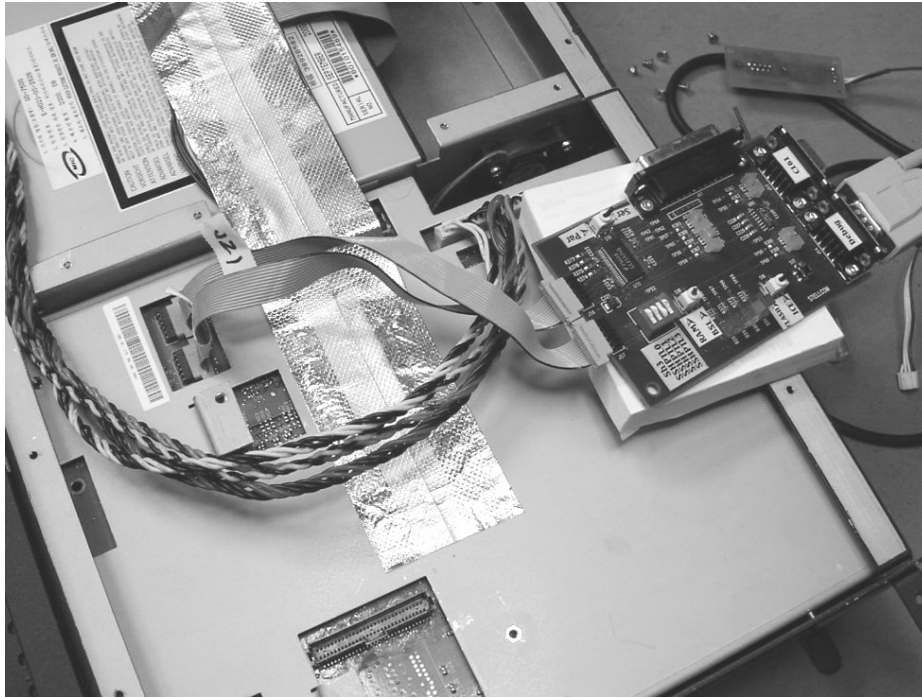

Figure 5-1 Connecting the serial adapter to J20 and J21 on the Controller Board
3. Connect the iCEBOX custom serial adapter to the PC's serial port. Connect the other end to: Debug-J56 to Controller Board-J20 and Debug-J57 to Controller Board-J21. Set Switch 16 to ICE position (refer to Figure 5-1).